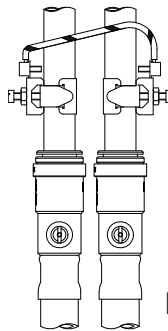

Fig. 11
- 4.15 **Adjacent pipes:** Adjacent suction and delivery pipes should be fitted with earthing clamps and connected with earthing wire size 4 mm² (Fig. 11).